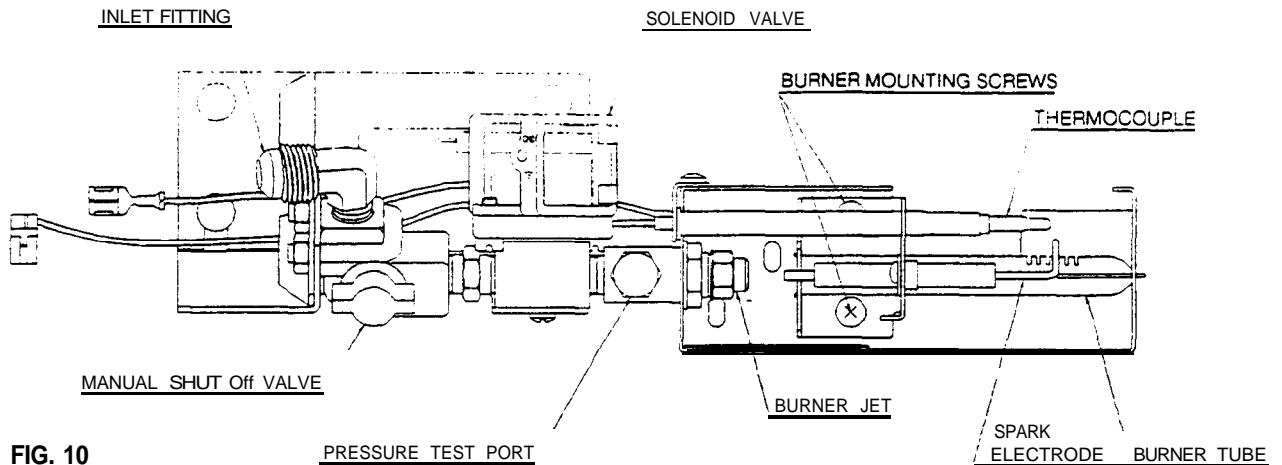

FIG. 10
- D. The LP gas pressure should be checked and the main regulator m-adjusted if pressure is incorrect. The correct operating pressure is 11 inches of water column. The correct place to take the LP gas pressure is at the test port just ahead of the burner jet. (See FIG. 10).
6. Remove the burner mounting screws and remove the burner assembly. (See FIG. 10).
Set main regulator so pressure does not drop below 11 inches water column at pressure test port (see side 11 FIG. 10).